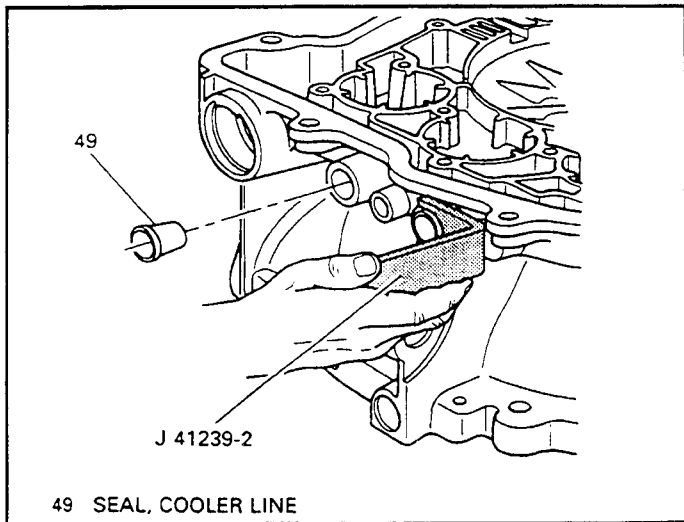

Figure 82
85. Remove the cooler line seals (49) using cooler line seal removal tool J-41239-2, as shown in Figure 82.
86. Wedge the tool into the seal on the outside of the case bore using a hammer (See Figure 82).
87. Pry the seal out of the case, strike the tool with a hammer if necessary (See Figure 82).